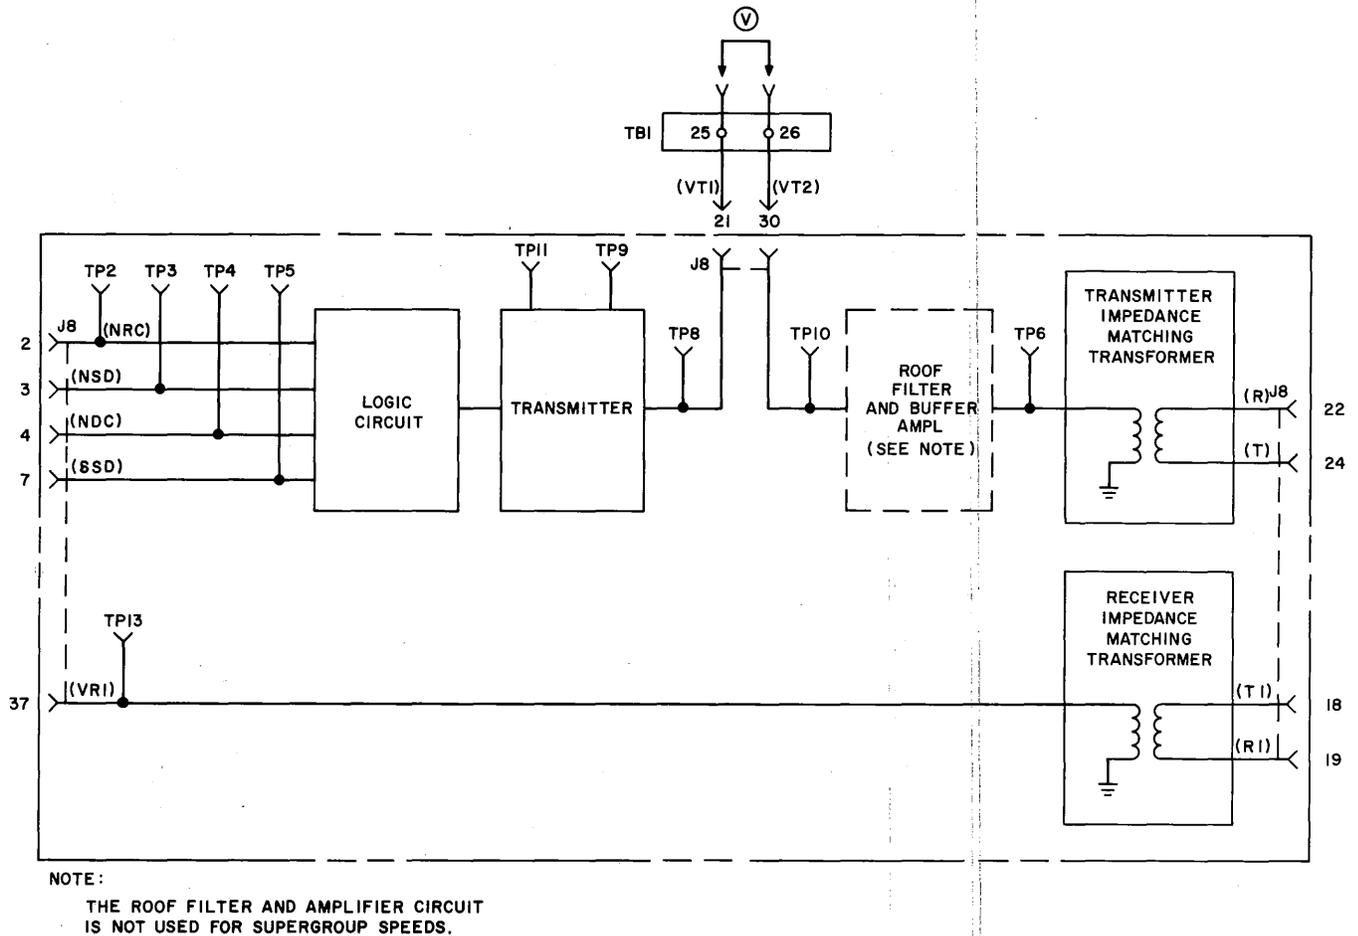

Fig. 6—Restored Polar—Line Interface and Transmitter, Block Diagram
- 3.26** This circuit pack provides input logic, a restored polar transmitter, transmit band-limiting filter (roof filter and amplifier), line transformers, and line surge protection (Fig. 6).